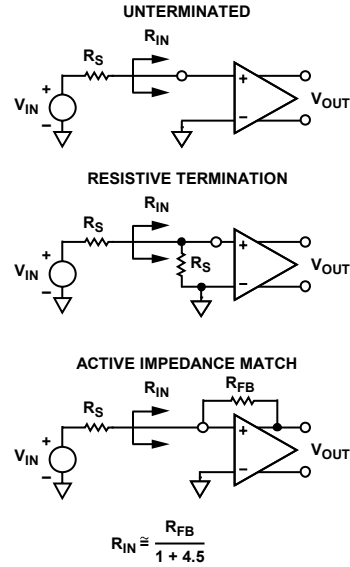
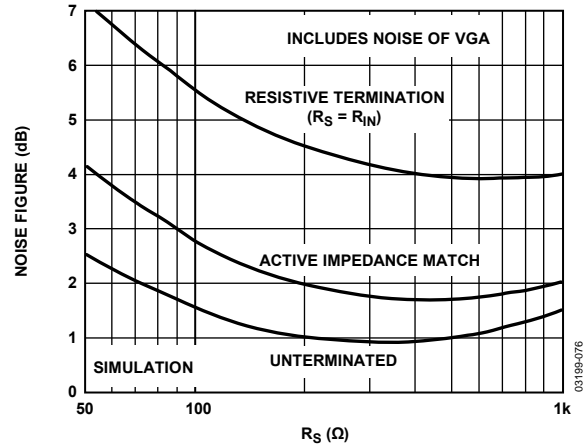
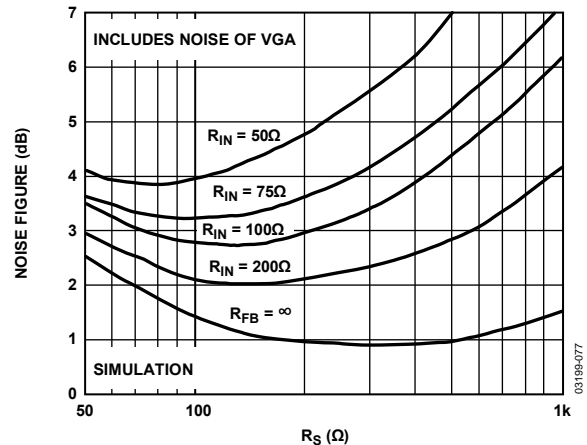

Figure 75. Input Configurations
Figure 76. Noise Figure vs. R_S for Resistive, Active Matched and Unterminated Inputs
Figure 77. Noise Figure vs. R_S for Various Fixed Values of R_{IN} , Actively Matched
The input-referred voltage noise sets an important limit on system performance. The short-circuit input voltage noise of the LNA is $0.74\text{ nV}/\sqrt{\text{Hz}}$ or $0.82\text{ nV}/\sqrt{\text{Hz}}$ (at maximum gain), including the VGA noise. The open-circuit current noise is $2.5\text{ pA}/\sqrt{\text{Hz}}$. These measurements, taken without a feedback resistor, provide the basis for calculating the input noise and noise figure performance of the configurations in Figure 75. Figure 76 and Figure 77 are simulations extracted from these results, and the 4.1 dB NF measurement with the input actively matched to a $50\ \Omega$ source. Unterminated ($R_{FB} = \infty$) operation exhibits the lowest equivalent input noise and noise figure. Figure 76 shows the noise figure vs. source resistance, rising at low R_S , where the LNA voltage noise is large compared to the source noise, and again at high R_S due to current noise. The VGA's input-referred voltage noise of $2.7\text{ nV}/\sqrt{\text{Hz}}$ is included in all of the curves.
The primary purpose of input impedance matching is to improve the system transient response. With resistive termination, the input noise increases due to the thermal noise of the matching resistor and the increased contribution of the LNA's input voltage noise generator. With active impedance matching, however, the contributions of both are smaller than they would be for resistive termination by a factor of $1/(1 + \text{LNA Gain})$. Figure 76 shows their relative noise figure (NF) performance. In this graph, the input impedance was swept with R_S to preserve the match at each point. The noise figures for a source impedance of $50\ \Omega$ are 7.1 dB, 4.1 dB, and 2.5 dB, respectively, for the resistive, active, and unterminated configurations. The noise figures for $200\ \Omega$ are 4.6 dB, 2.0 dB, and 1.0 dB, respectively.
Figure 77 is a plot of the NF vs. R_S for various values of R_{IN} , which is helpful for design purposes. The plateau in the NF for actively matched inputs mitigates source impedance variations. For comparison purposes, a preamp with a gain of 19 dB and noise spectral density of $1.0\ \text{nV}/\sqrt{\text{Hz}}$, combined with a VGA with $3.75\ \text{nV}/\sqrt{\text{Hz}}$, yields a noise figure degradation of approximately 1.5 dB (for most input impedances), significantly worse than the AD8332 performance.